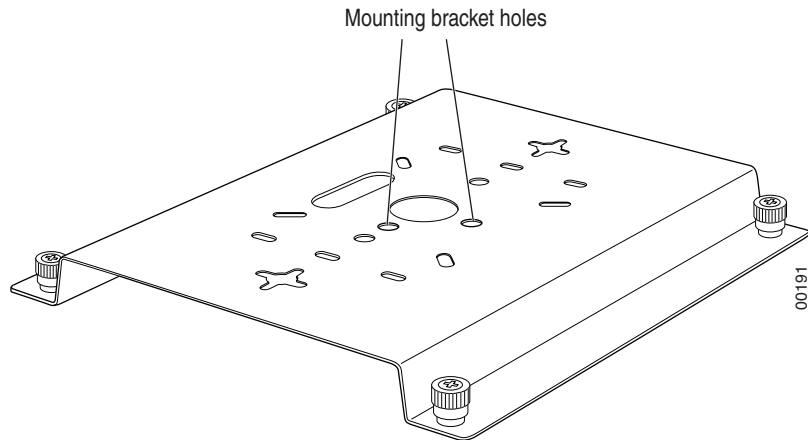

Figure 12: Box Hanger Mounting Bracket Holes
3. Locate the bracket mounting clip holes on the mounting bracket (see Figure 12). One hole attaches the bracket perpendicular to the box hanger. The other mounts the bracket parallel to the box hanger.